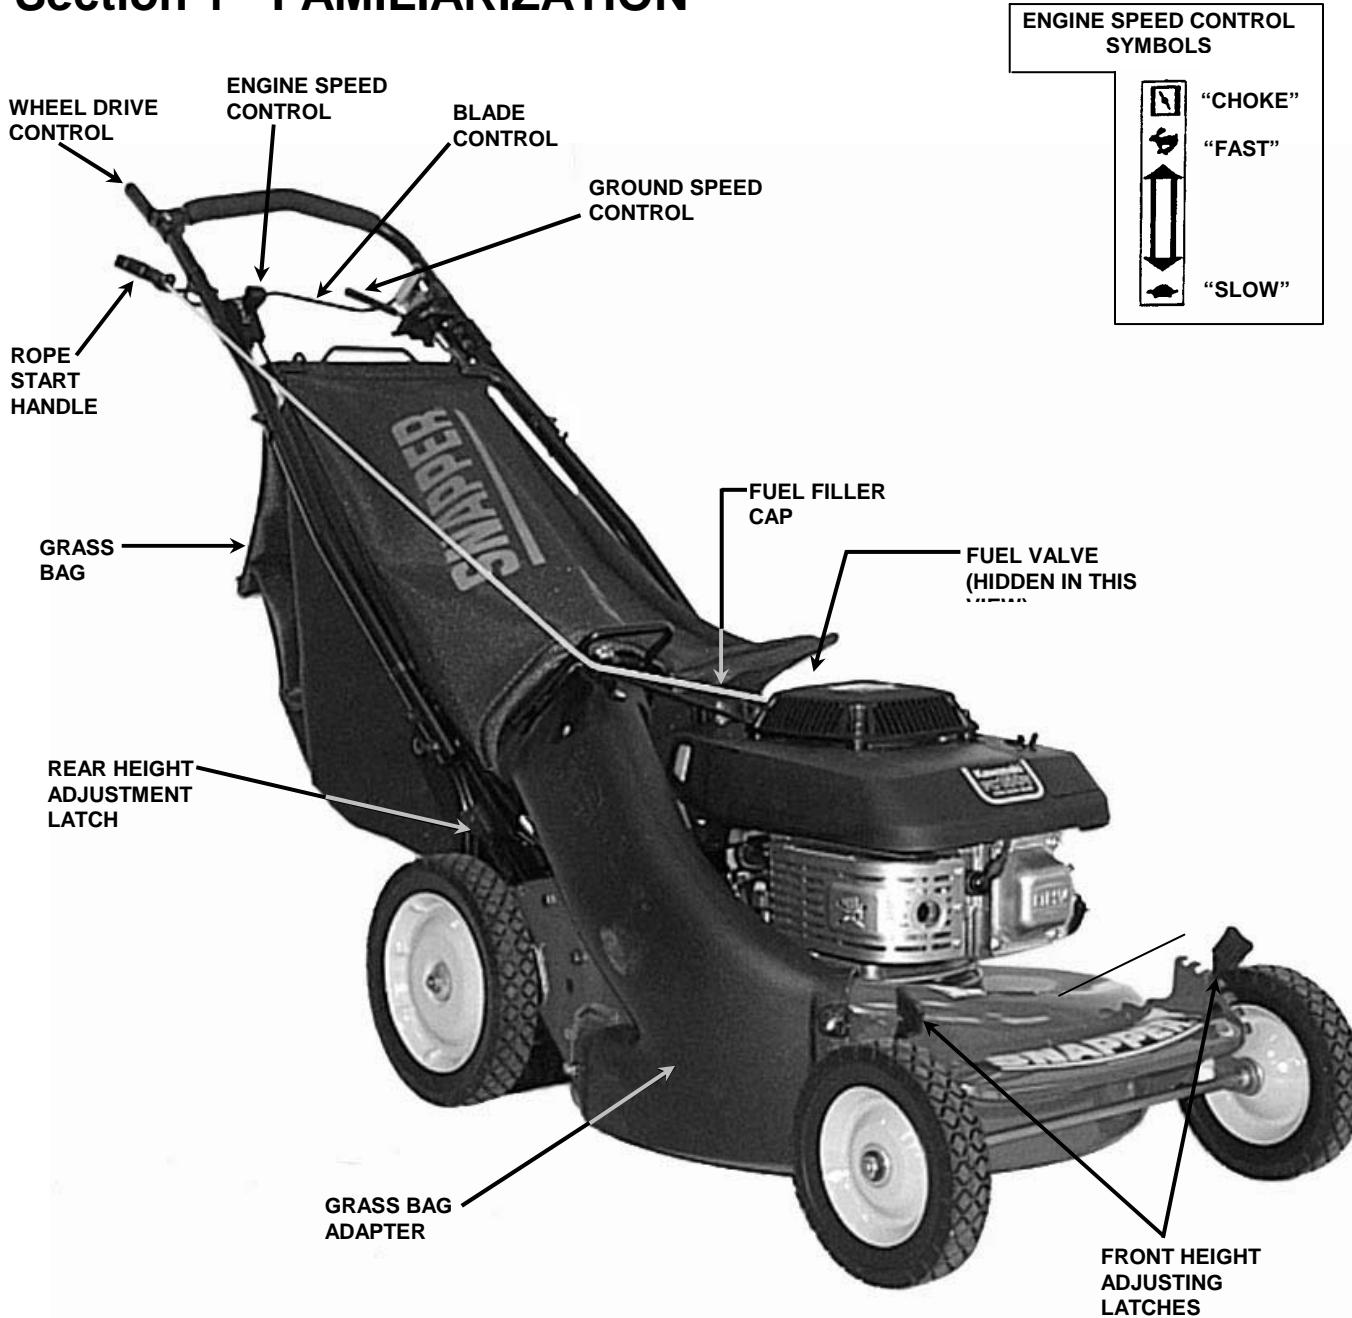
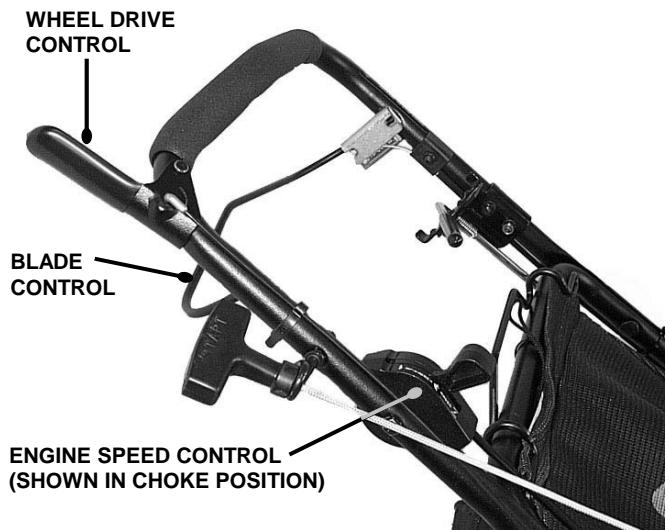

FIGURE 1.1
FIGURE 2.3
The nomenclature drawing above, Figure 1.1, shows the essential parts of the SNAPPER WALK BEHIND MOWERS. It is recommended that all operators of the mower become thoroughly familiar with the controls, parts and operation of the mower before operating. Specific details involving the engine are found in the separate engine owner's manual. Study these manuals before operating and keep both handy for future reference.
**1.** Turn fuel valve to on. See Figure 1.1. Move engine speed control to the "choke" position. The choke should not be required to restart a hot engine. See Figure 2.3.
- 4.** After engine starts, move engine speed control away from the choke position to the "Fast" (Rabbit) position. See Figure 2.3.